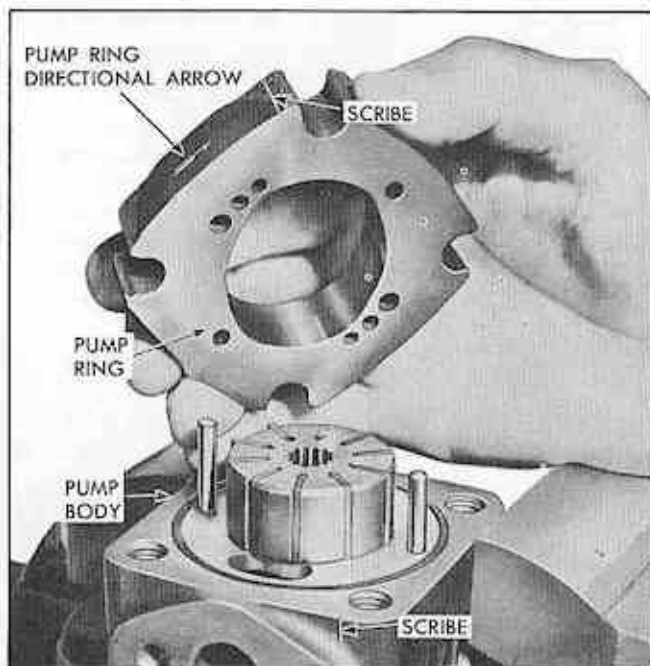

Fig. 98 Removing Pump Ring from Pump Body
9. Mark position of pump ring in relation to pump body, and remove ring from dowel pins (Fig. 98). NOTE: Arrows on outer edge of pump ring point in direction of pump rotation.